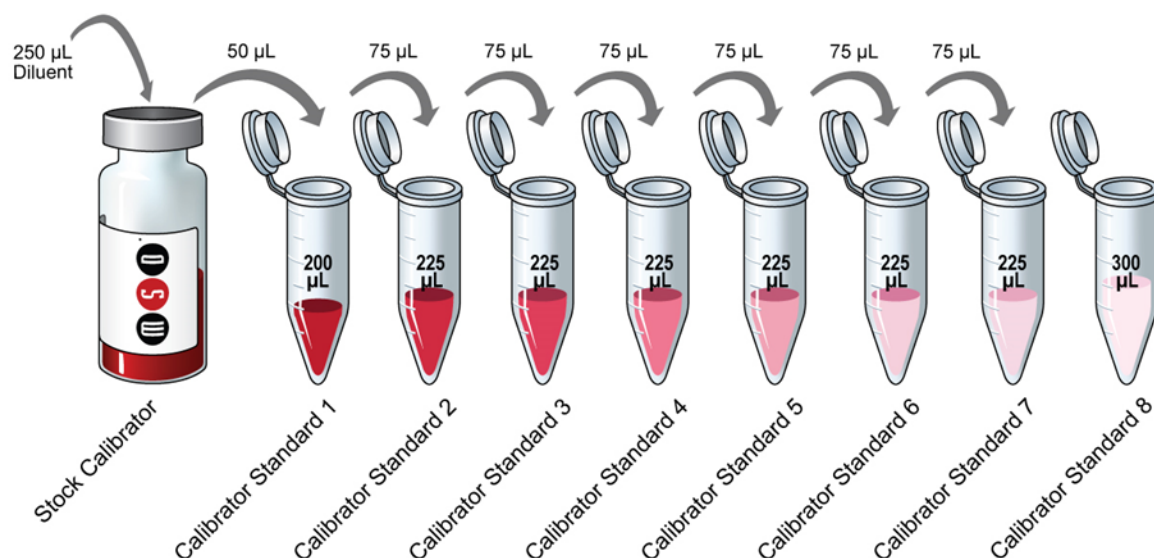

Figure 4. Dilution schema for preparation of Calibrator Standards for U-PLEX Biomarker Group 2 assays.
The following instructions will enable you to prepare seven Calibrator Standard solutions plus a zero Calibrator Standard for up to six replicates (Table 7; Figure 4).
- ❑ Prepare the subsequent 6 dilutions for the curve (4-fold serial dilutions) in Assay Diluent (Figure 4; Table 7). Use Assay Diluent for the Calibrator Standard 8 (zero Calibrator/blank). Mix by vortexing the tubes between each serial dilution.